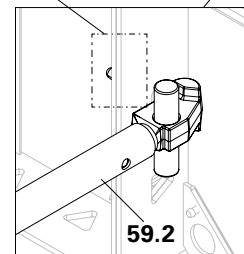

Fig. A8.06a
- Apply a force on the handle pipe (59.2) and lift the panel to bring them back into right position. (Fig. A8.06a)